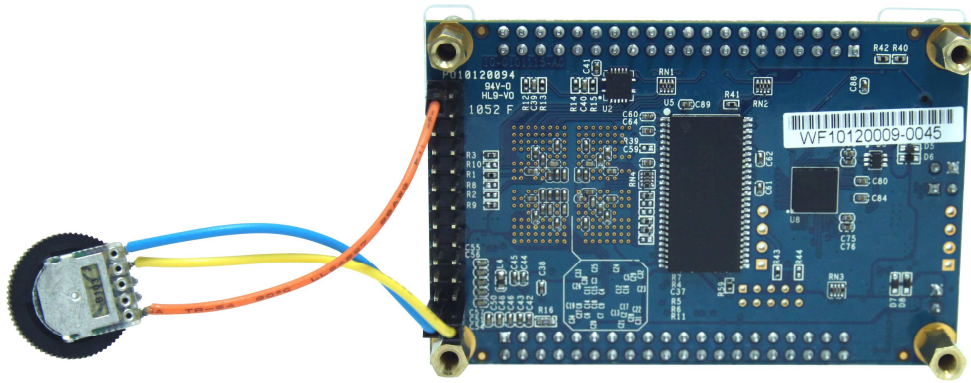

Figure 8-5 ADC Reading hardware setup
- **Figure 8-5** shows the hardware setup for the ADC Reading demonstration.